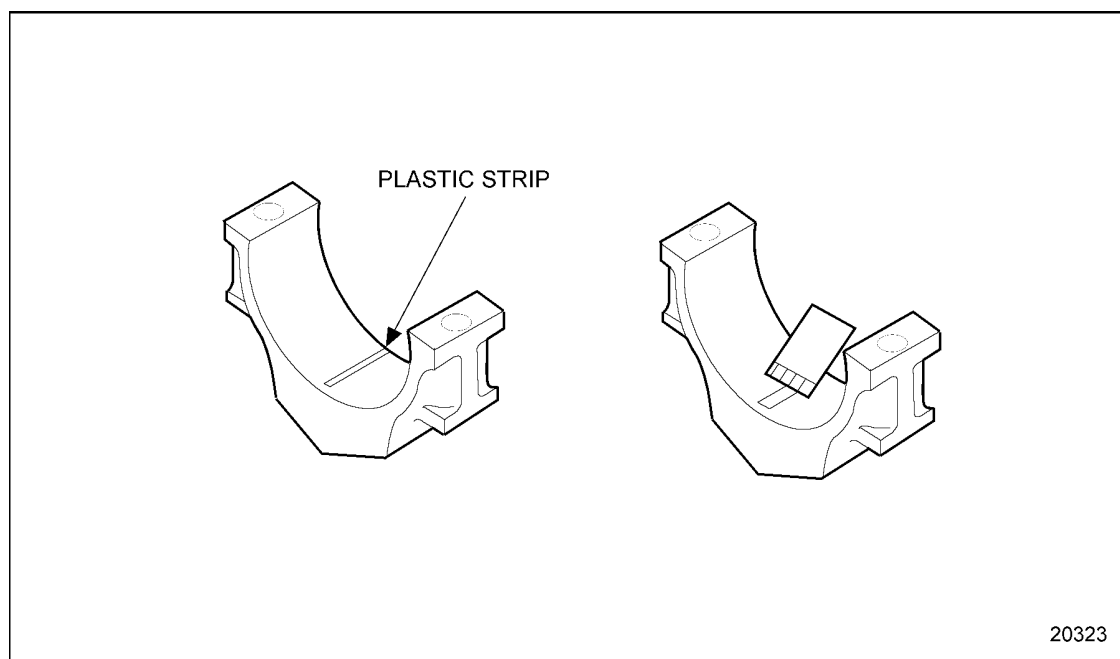

Figure 1-439 Using Plastic Strip to Measure Bearing-to-Crankshaft Clearance
2. Place a piece of plastic strip the full width of the bearing shell, about 1/4 inch off center. See Figure 1-439.
5. Compare the width of the flattened plastic strip at its widest point with the graduations on the envelope. See Figure 1-439. The value within the graduation on the envelope indicates the bearing clearance in thousands of an inch. To obtain metric specifications: